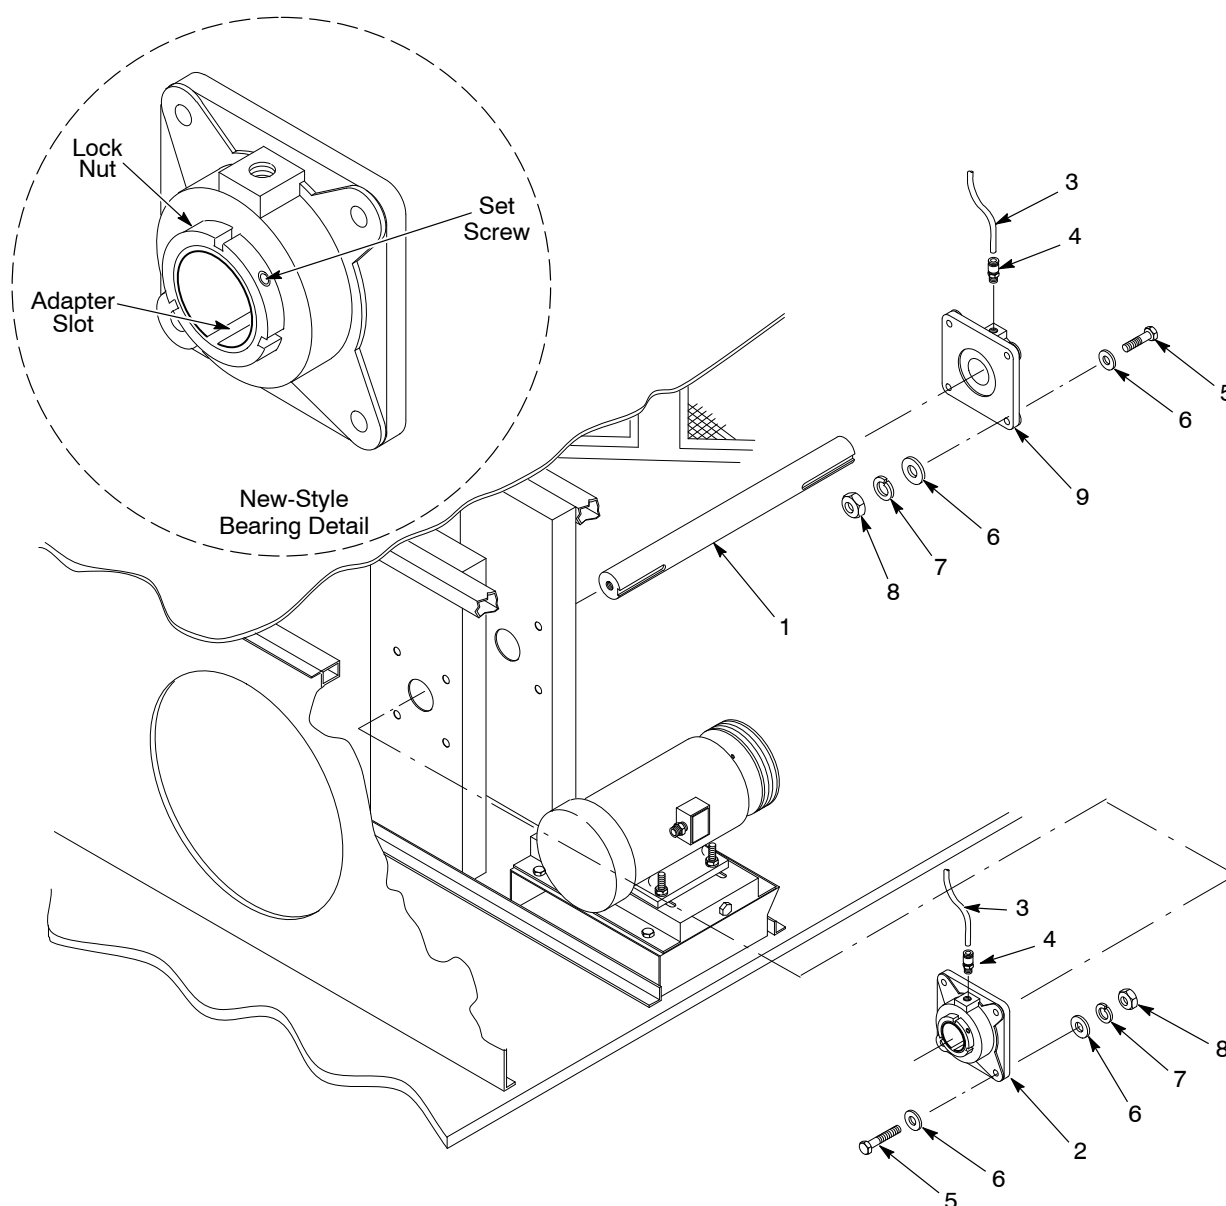

Figure 7-11 Fan Shaft and Bearing Replacement
See Figure 7-11.
2. See Figure 7-11. Install the fan and key on the shaft. Tighten the key set screw in the fan hub to hold the fan in place. Install the retainer washer and screw on the end of the shaft.
5. Adjust the non-expansion bearing (9):
6. Adjust the expansion bearing (2):